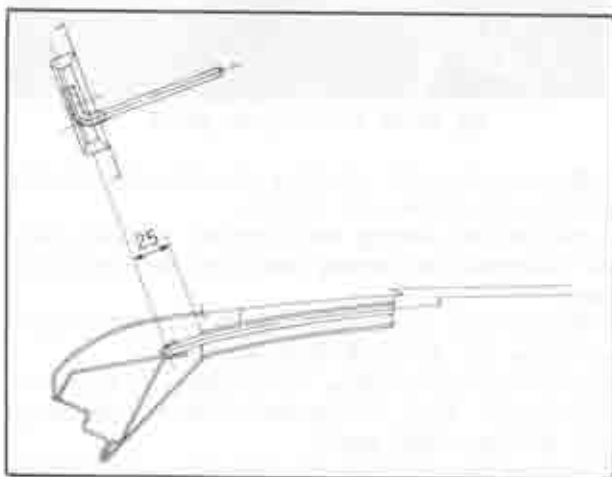

Fig. 14-92 Listing wire
3. Insert both ends of the listing wires to their proper positions in successive order beginning from the rear as shown in Fig. 14-92.